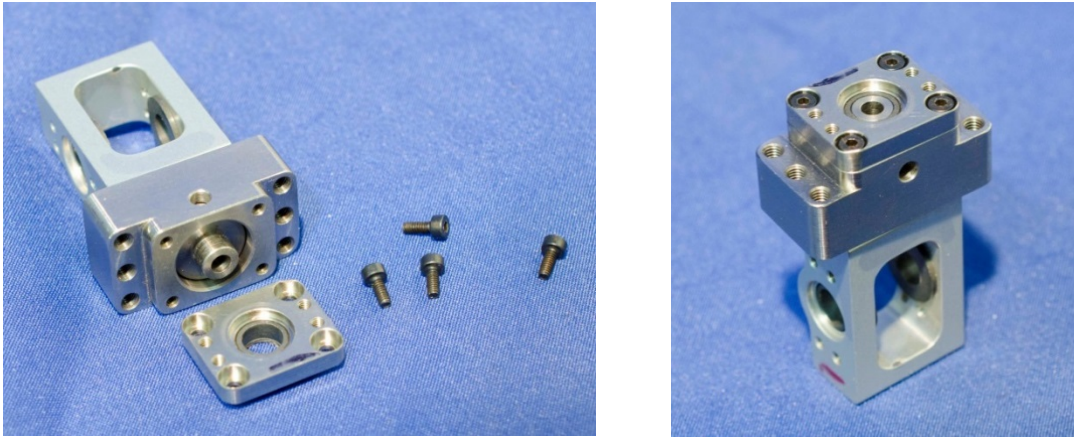

Figure 9-5. Install cover on mounting block
- 9.2.2.1 Configure the (Left) Pivot Assembly (472-4740-1) by installing the Cover (472-4742) on the Mounting Block (472-4741) using four M2.5 x 0.4 x 5 SHCS (Figure 9-5).